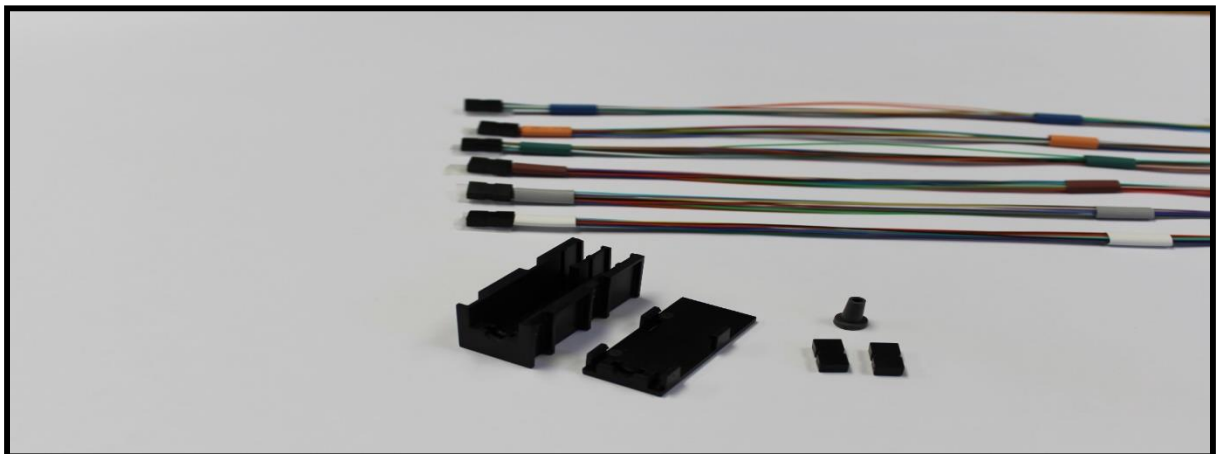

Figure 6
6.1 FT72FBK Field Termination Kit consists of a Base Unit, Cover Unit, Six (6) Breakout Unit Assemblies, 12 colored Tube Markers "Sleeves" (Blue, Orange, Green, Brown, Slate and White placed over assemblies), a 4.0 mm bushing, and 2 blanks, (**See Fig. 6**)